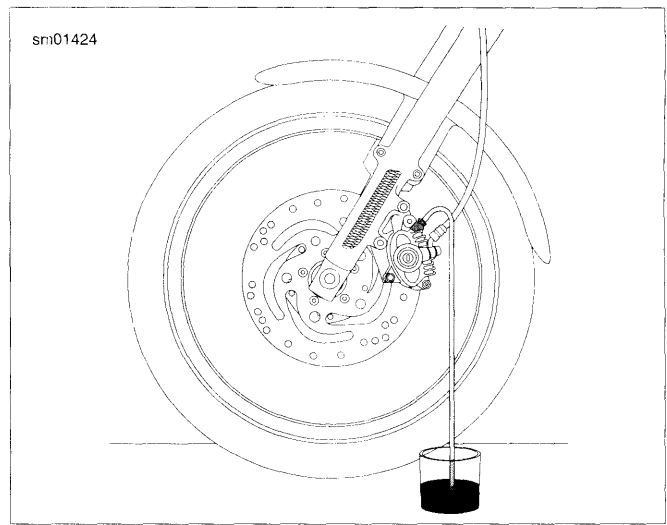

Figure 2-55. Bleeding Hydraulic System (typical; XL model shown)
7. See Figure 2-55. Install length of 5/16 in. (7.9 mm) I.D. clear plastic tubing over front brake caliper bleeder valve (3). Place free end of tube in a clean container.